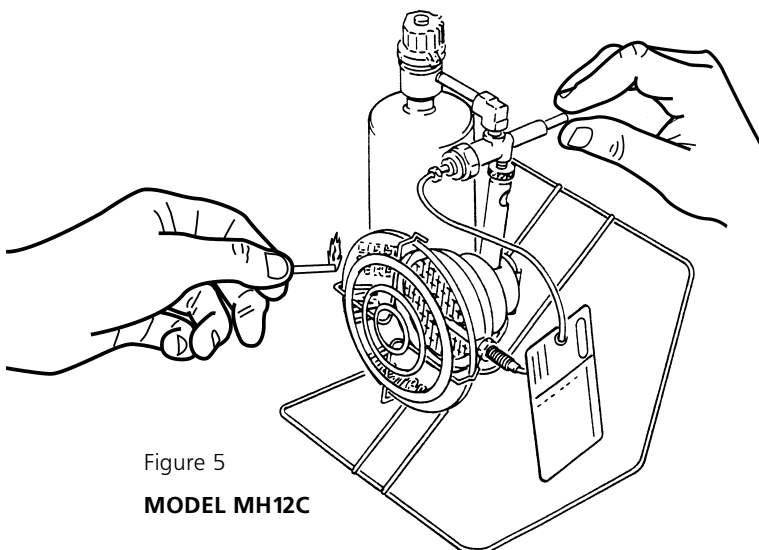

Figure 5
- D. To light MH12C, place a lit match across the mesh screen where you see "light here" on reflector. (See Fig. 5) THEN push in valve button on Safety Shutoff Valve. After the heater is lit, continue to hold valve button in for 30 seconds, then release the button slowly. **CAUTION: DO NOT PUSH IN VALVE BUTTON BEFORE INSERTING LIT MATCH.**
- B. When shutting off the heater, turn the regulator knob on the heater to "OFF" (clockwise). (See Figure 5 and 5a).